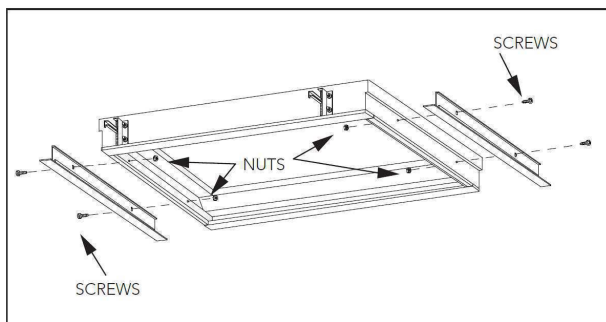

Figure 4
- The STR flanged fixture has been supplied with two end trims that need to be installed on the fixture before securing it to the ceiling. The trim pieces are secured to the end cap of the fixture as shown in Figure 4. (The end cap can be identified by its offset profile.)